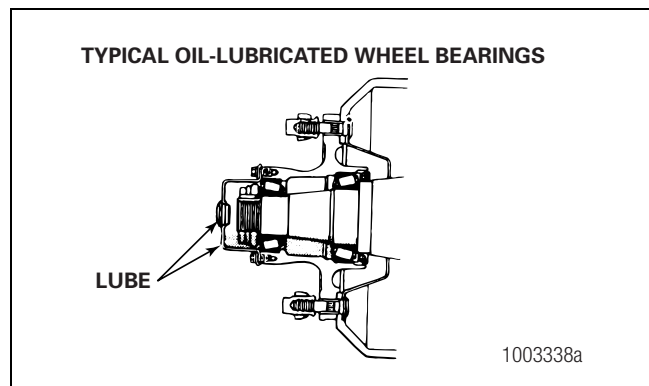

Figure 2.31
4. Add the specified oil to the specified level. Figure 2.31.